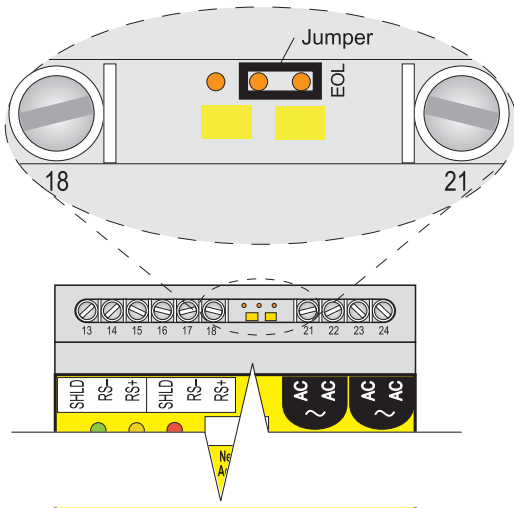

Figure 5a. End of Line Jumper for last TTSIM-1A
- On the last TTSIM-1A in the circuit, place the jumper as shown in Figure 5a.